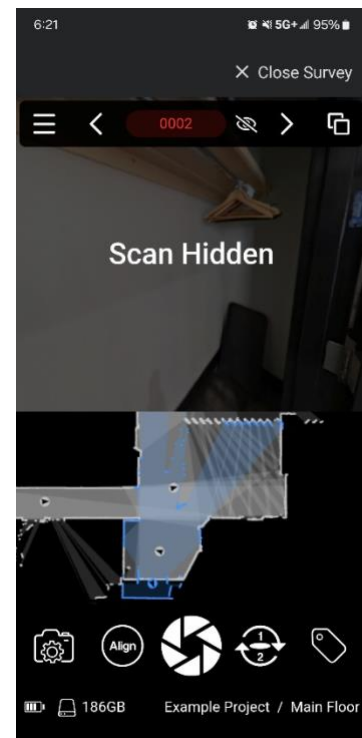

Figure 12 - Scan hidden
5. Tap the **Eye** button  to set the selected scan as hidden  (see Figure 12).